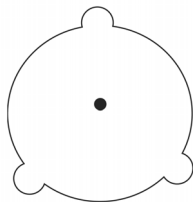

Figure 17
1) It has the drill map in embedded bracket, tip the black parts of double paper, the central of drill map have a red spot, which is central spot (Figure17).